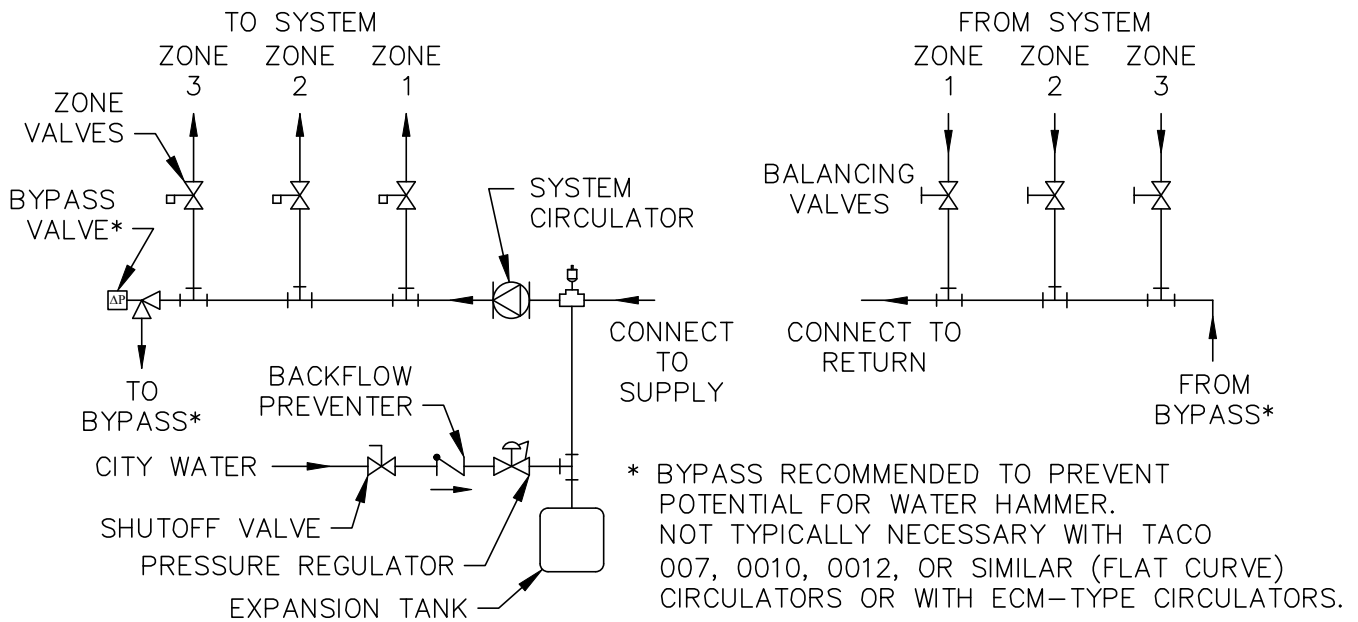

Figure 3.6: Zone Piping with Zone Valves
1. See Figures 3.6 and 3.7 for basic zoned system layouts. Circulators may be installed in either supply or return piping. Refer to PB Heat, LLC Water Installation Survey for additional information.